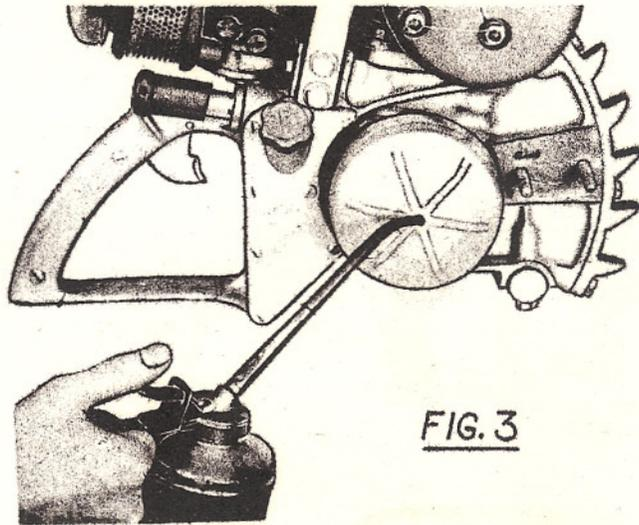

FIG. 3
f) Clutch Lubrication (Fig. 3)